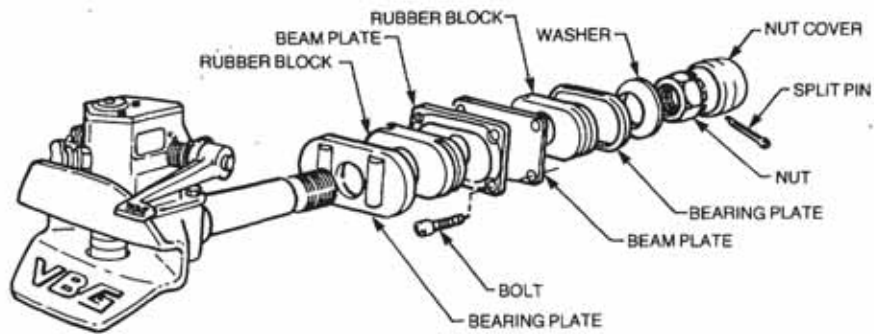

Figure 29 Tow Coupling – Exploded View
69. **Removal.** Remove the tow coupling as follows (Figures 29):